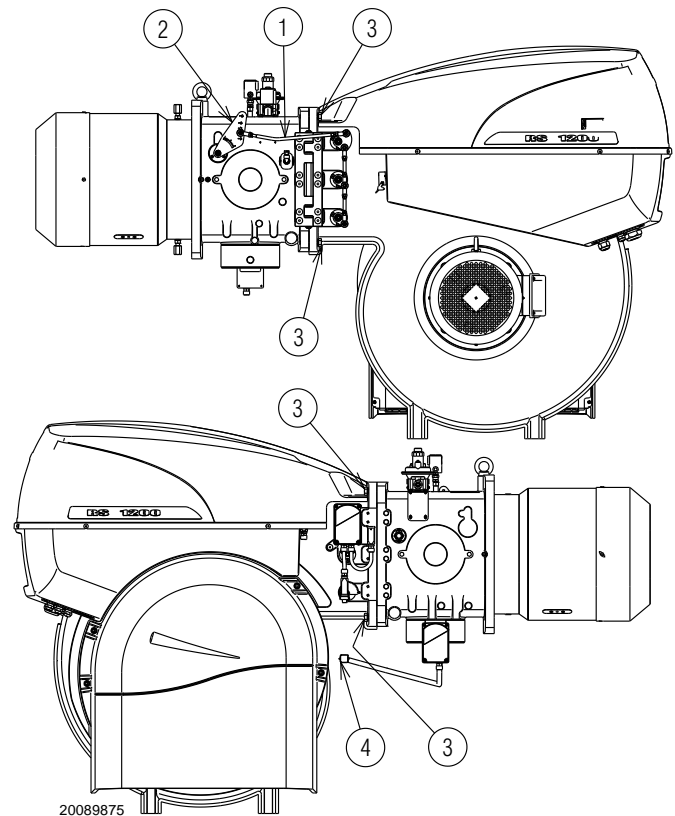

Fig. 35
- Remove the tie-rod 1)(Fig. 35) of the head movement lever, undoing the nut 2).